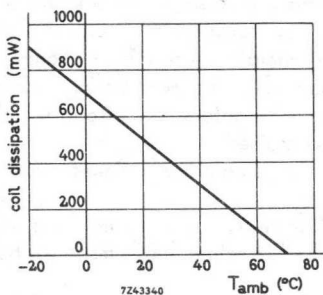

Fig. 7
- Continuous energising: The coil dissipation must be kept below the values indicated in Fig. 7.
- b. when using a series of pulses of relatively high frequency, the mean coil dissipation must be kept below the values indicated in Fig. 7